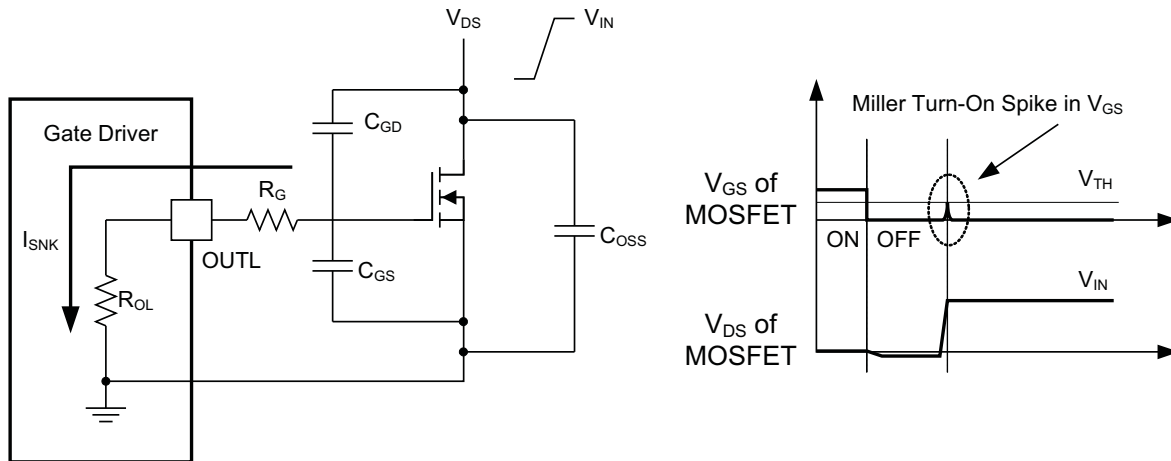

Figure 24. Very Low Pull-Down Impedance in UCC27511, 4-A/8-A Asymmetrical Drive (output stage mitigates Miller turn on effect)
An example of a situation where Miller turn on is a concern is synchronous rectification (SR). In SR application, the  $dV/dt$  occurs on MOSFET drain when the MOSFET is already held in off state by the gate driver. The current discharging the  $C_{GD}$  Miller capacitance during this  $dV/dt$  is shunted by the pull-down stage of the driver. If the pull-down impedance is not low enough then a voltage spike can result in the  $V_{GS}$  of the MOSFET, which can result in spurious turn-on. This phenomenon is illustrated in Figure 24. UCC27511 and UCC27512 offers a best-in-class, 0.375- $\Omega$  (typ) pull-down impedance boosting immunity against Miller turn on.